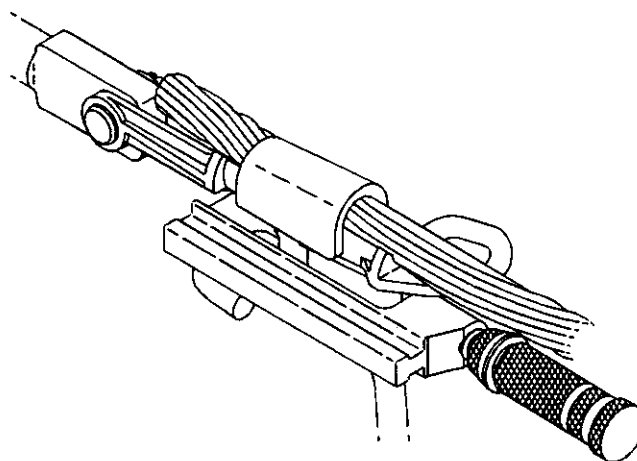

Figure 6
7. Prepare the AMPACT tool and apply the connector as described in AMP Customer Manual 409-2106, which is supplied with the AMPACT tool. See Figure 6.